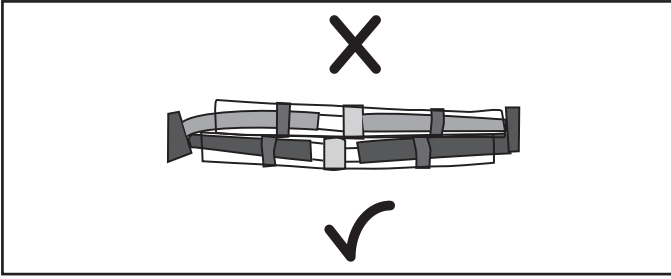

Figure 9. Proper and Improper Solder Ball Positions
6. Slide the wires from the new cable into the solder splices and position each splice so that the silver coloured solder ball is positioned over where the two (2) wires join. See Figure 9.